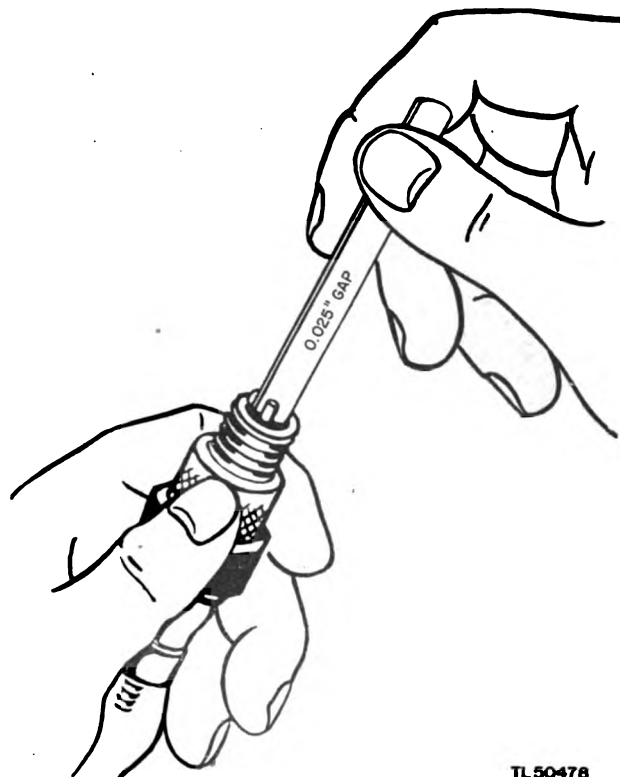

Figure 65. Checking spark-plug gap.
(3) *Spark-plug adjustment* (fig. 65). Spark plugs should be cleaned and the gap between spark points reset to 0.025 inch after every 100 hours of operation. The points burn away in service. They may be cleaned by washing with